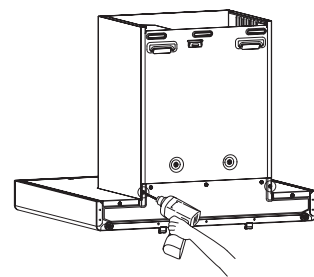

Fig.6
2. Remove the fan cover and decorative hood (only for EMS6008-C): remove the 2 screws that fix the fan cover behind the main body with a screwdriver(see Fig.6), and then grab the fan cover and decorative hood with both hands to take them out upward(see Fig.7);